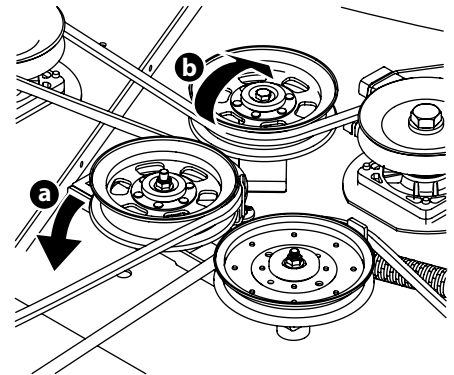

Figure 4-11
- b. Working from the middle of the tractor, pivot the idler bracket and movable idler pulley rearward away from the backside of the 'V' belt (a) just far enough to lift the belt up and over the idler pulley (b). See Figure 4-11.